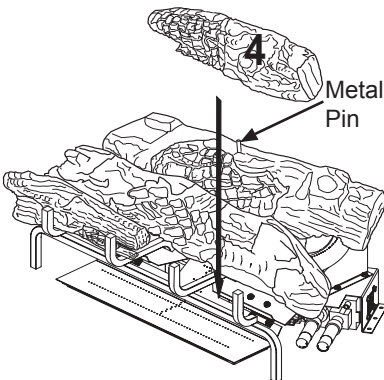

Figure 34- Installing Log # 4
4. Place the front right log (#4) onto the base assembly between the middle log and the grate. The back of the front right log will rest against the front of the middle log. The notch in the end of the front right log will fit around the grate bar. See Figure 34.